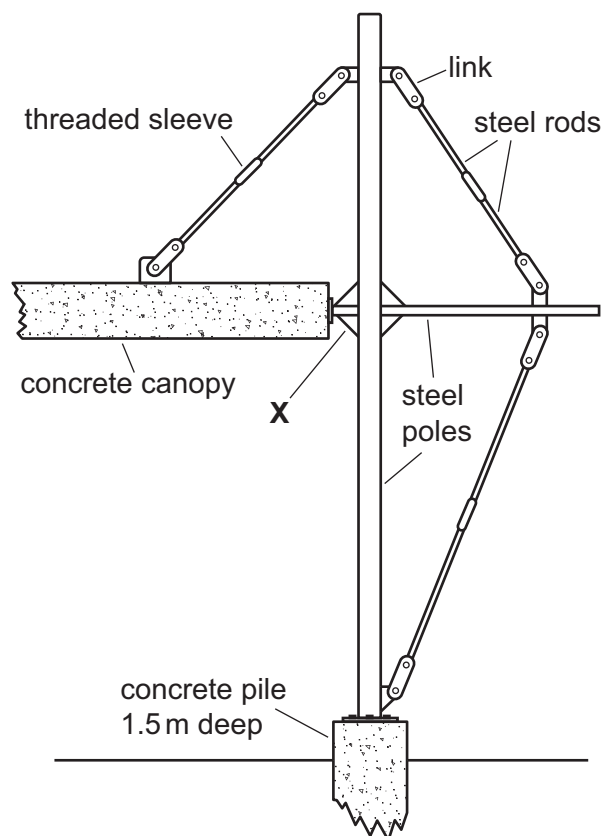

Fig. 10.1
- 10 Fig. 10.1 shows a concrete canopy over the front of a warehouse building. The canopy is supported either side by steel structures that resist forces caused by the weight of the concrete canopy. A detailed view of one of the steel structures is shown.
- (iii) Part **X** in Fig. 10.1 is one of four features at the point where the steel poles are joined. Name part **X** and explain the part that it plays in supporting the concrete canopy.